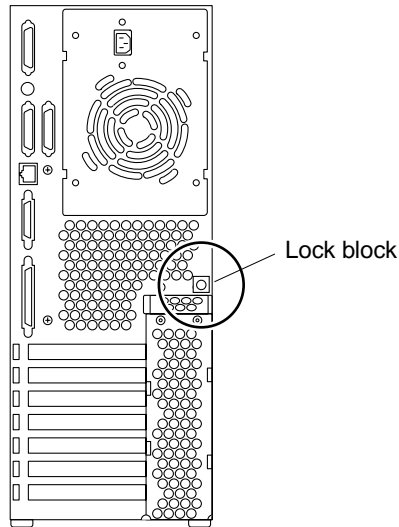

FIGURE 7-1 Lock Block Location
2. Disconnect the lock block (FIGURE 7-1).
3. **Connect the lock block (FIGURE 7-1).**